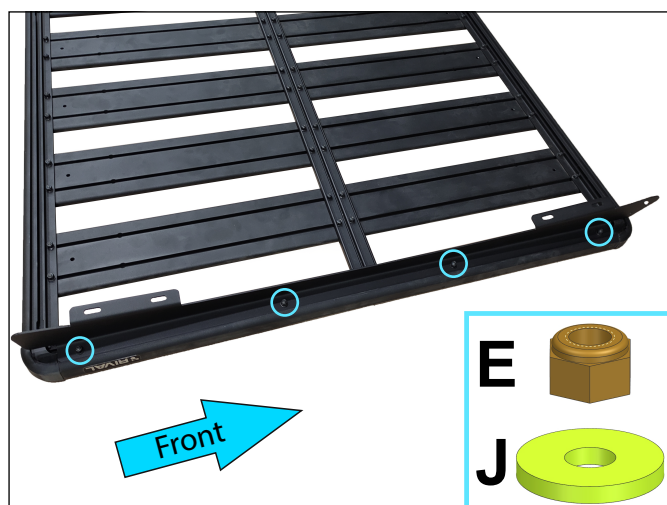

Fig. 10
6. Install the right and the left brackets (item 1,2) on both sides of roof rack platform and fix using flat washers 8 (item J) and nuts M8 (item E) (fig.10).